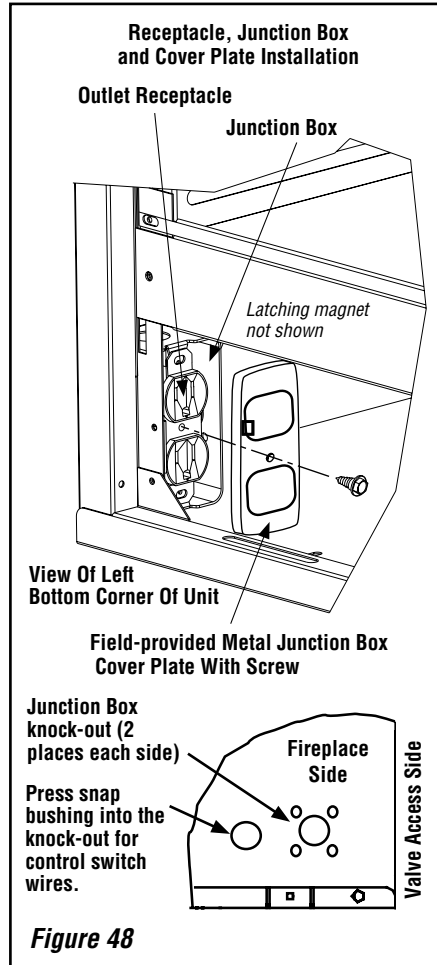

Figure 48
NOTE: The junction box can be installed in any of the 4 outside corners of the control compartment (outlet installed in front left corner is shown in *Figure 48*). If an optional blower is to be installed place the junction box to the left of the valve in the front corner.
5. After the receptacle/junction box wiring is complete, install the field-provided metal junction box cover plate (see *Figure 48*).